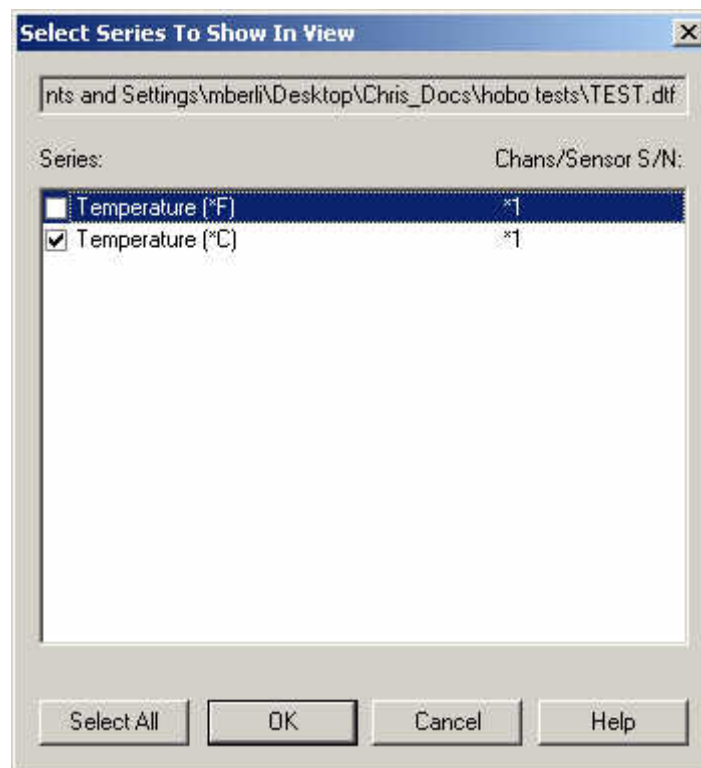

Fig. 6 Selecting data to view
15. Another screen will appear, fig. 6. Here you may choose from the measurements that the HOBO has taken which ones you wish to view. You choose which measurements will be saved by checking them. Uncheck measurements that you do not wish to view. After you have selected click **OK**.